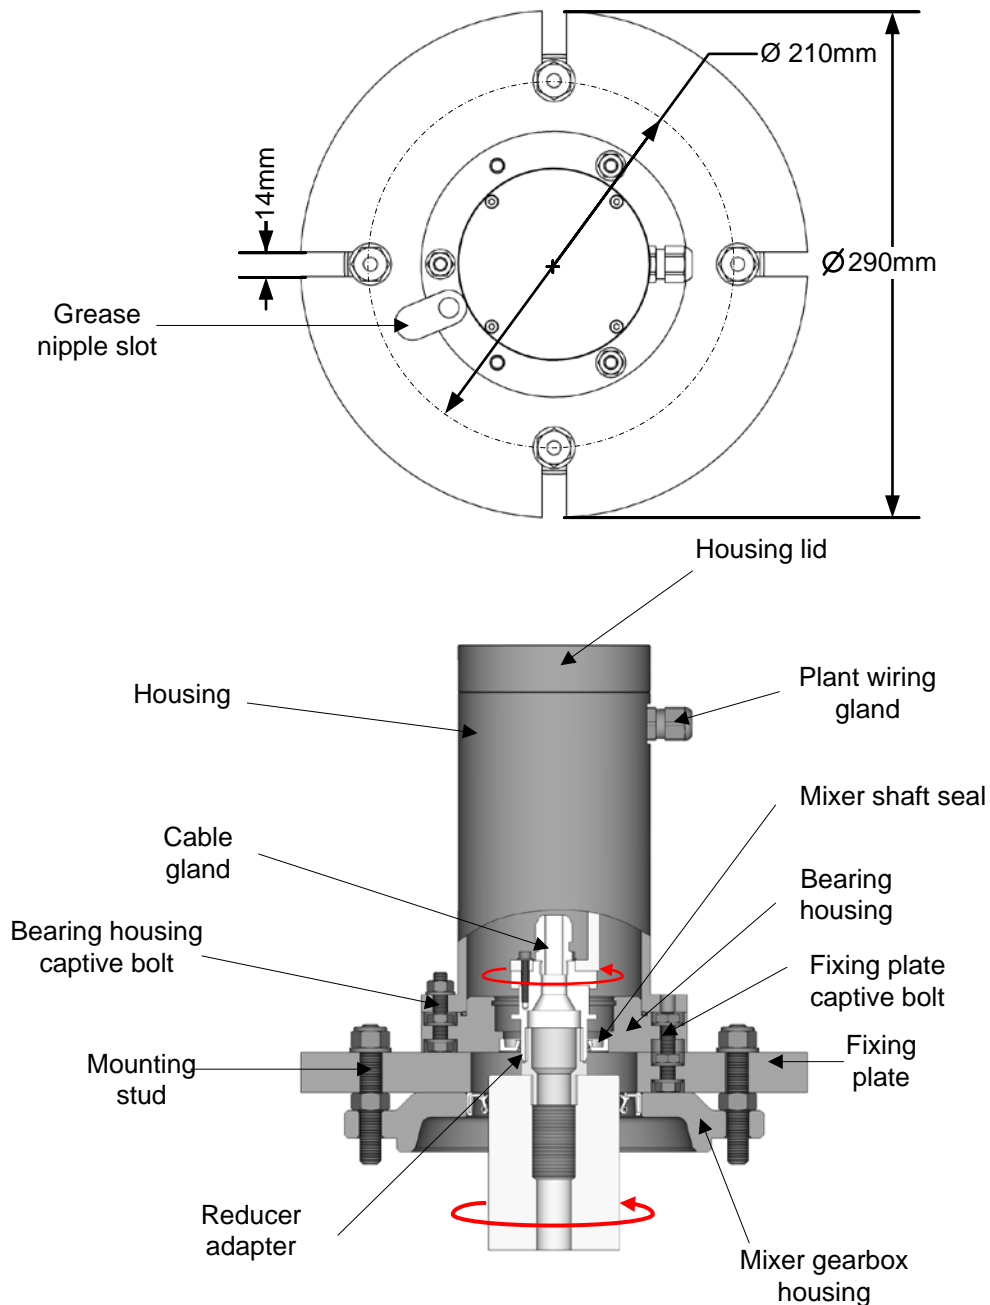

Figure 18: Type 'A' Rotating Connector assembly
On some mixers threaded adapters enable the Rotating Connector holder to be directly attached to the gearbox shaft. Two brass reducers are available depending on the type of mixer. One is a 1" BSP male to 1/2" BSP male adapter and the other is a 1" BSP male to 3/4" BSP male adapter. The construction using either adapter is shown in Figure 18.
- Ensure the captive bolts for securing the bearing housing are fitted to the fixing plate. See Figure 18.